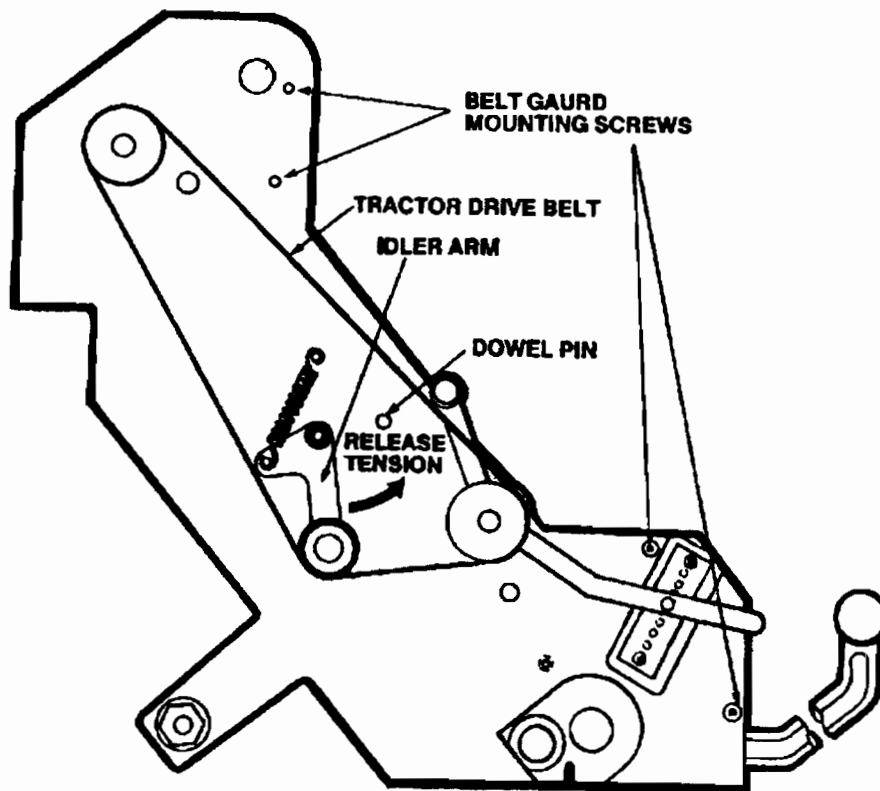

Figure 7. Removing the Tractor Belt Guard and Belt
- a. Relieve the tension on the belt by pulling the idler arm forward (Figure 7).